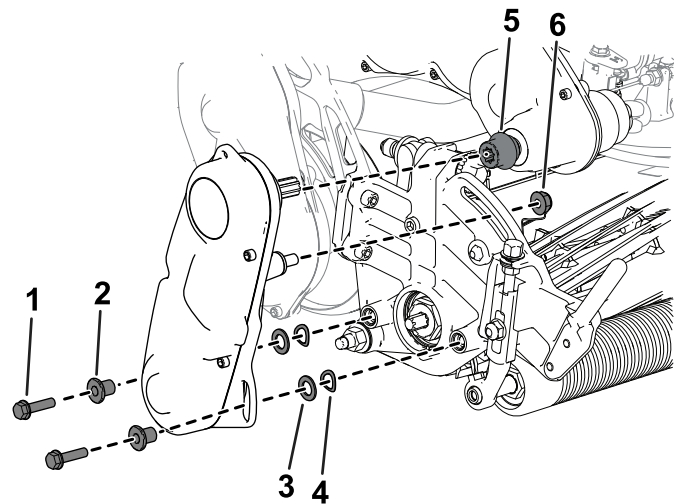

Figure 8
- D. Install the coupler to the transmission driveshaft (Figure 8).
- E. Use the previously removed hardware to install the reel-drive assembly to the cutting unit (Figure 8).
- F. Ensure that the coupler (Figure 8) can easily move back-and-forth on the transmission driveshaft.